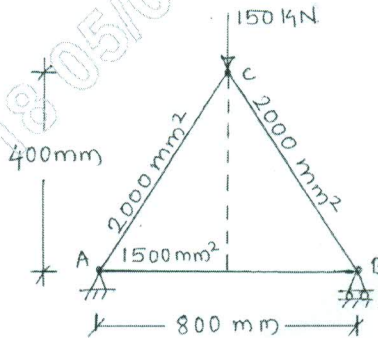

Fig.Q6
- 6 For given truss in Fig.Q6, determine nodal displacement and stress in each element. Take modulus of elasticity as 200GPa. Area of members $AC = CB = 2000\text{mm}^2$. $AB = 1500\text{mm}^2$. (16 Marks)